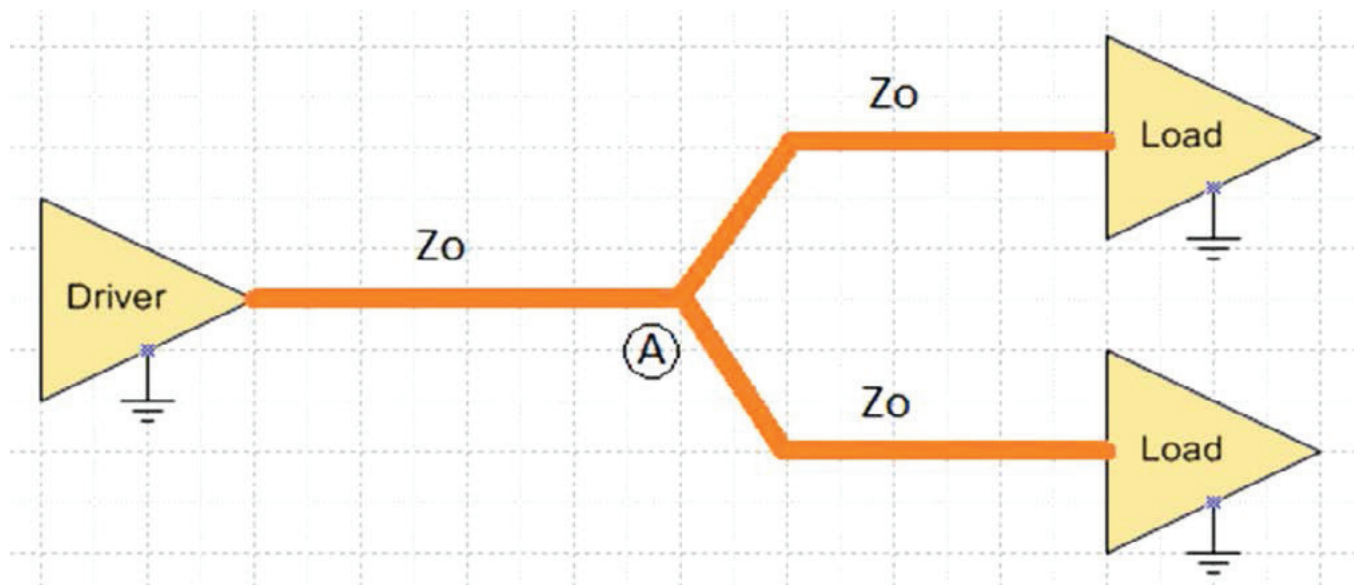
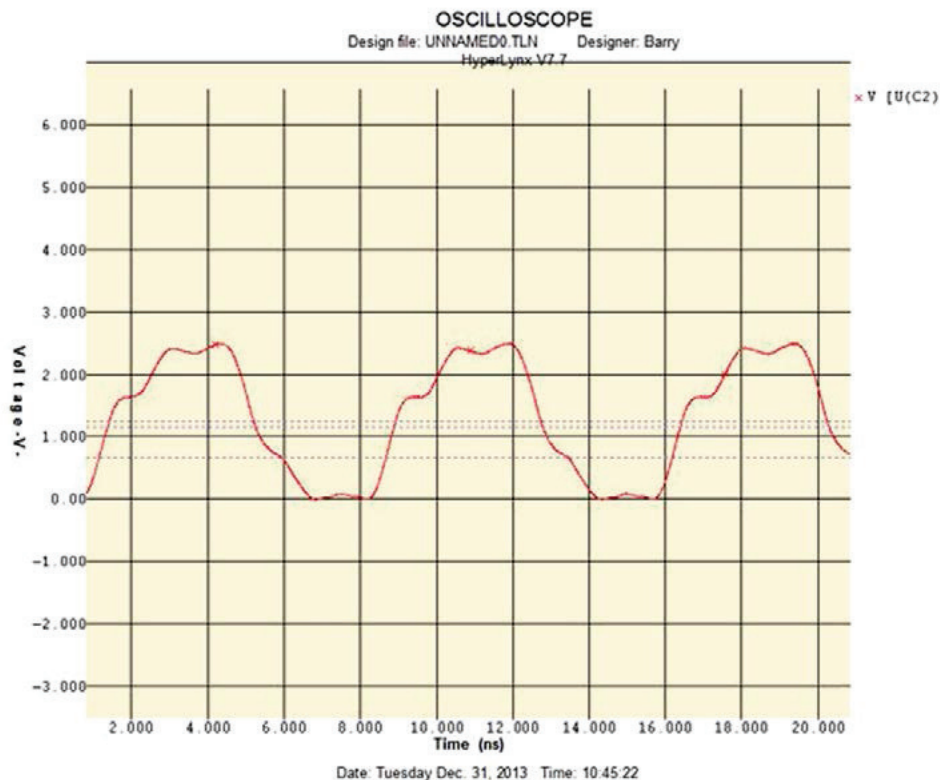

Figure 1: An unmatched bifurcated transmission line.
Figure 2: The resultant waveform of the unmatched line.
not constant along the trace route, as the traces branching from the T-section are virtually in parallel when you consider the equivalent AC circuit. In this case, proper termination has not been provided and an impedance discontinuity can be seen at the branch point. In Figure 1, a 50 ohm signal from the driver is split into two transmission lines of 50 ohms and then into the loads. At branch (A), the two 50 ohm traces in parallel equate to a 25 ohm equivalent trace, and a mismatch in impedance. Figure 2 illustrates the resultant waveform of the unmatched transmission line.